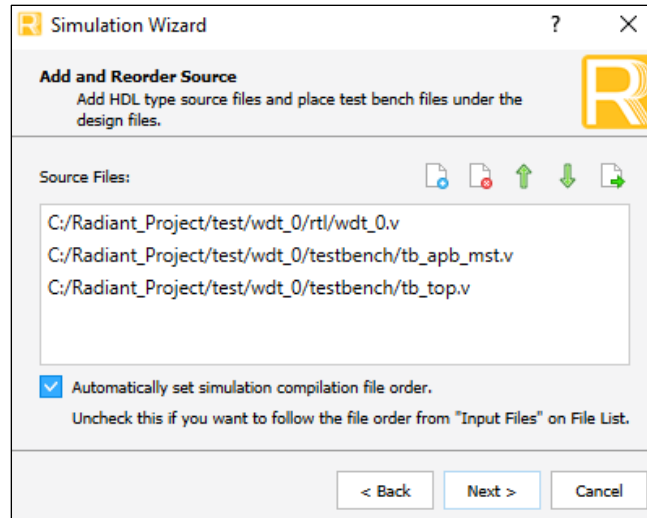

Figure 7.5. Adding and Reorder Source
2. Click **Next** to open the **Add and Reorder Source** window, as shown in Figure 7.5. Confirm that the **Source Files** are as shown in Figure 3.5. Remove other files if there are any.